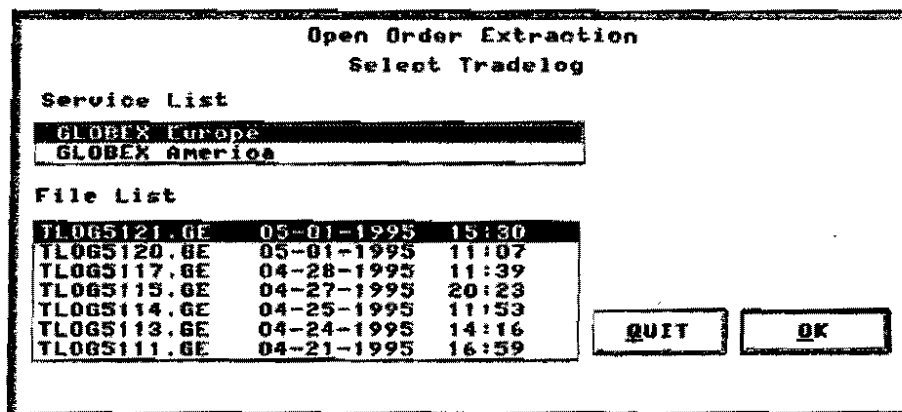

Figure 12.25 Extract Working Orders Dialog Box
1. Select **Extract Working Orders** in the Special menu to display the dialog box shown in Figure 12.25. The highest priority Service is selected, as is the most recent of up to seven tradelog files displayed in the list. (Tradelog file-names are explained in Section 12.4.2.)